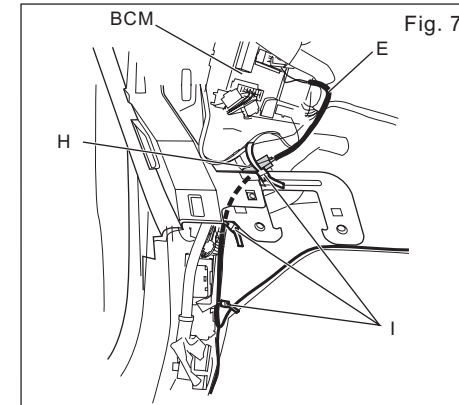

Fig. 7
- c) Wrap the connected connector with one piece of Urethane Foam Tape H. See in Fig. 7.
- d) Attach the Harness E to vehicle harness at the position using the tie wrap I (3 pieces). See in Fig. 7.